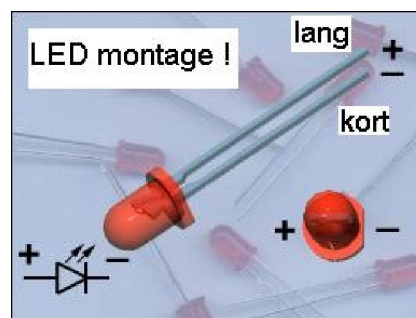

Fig 3. BEDRADINGSPLAN
7. Monteer alle blanke bedrading (zie fig. 3)